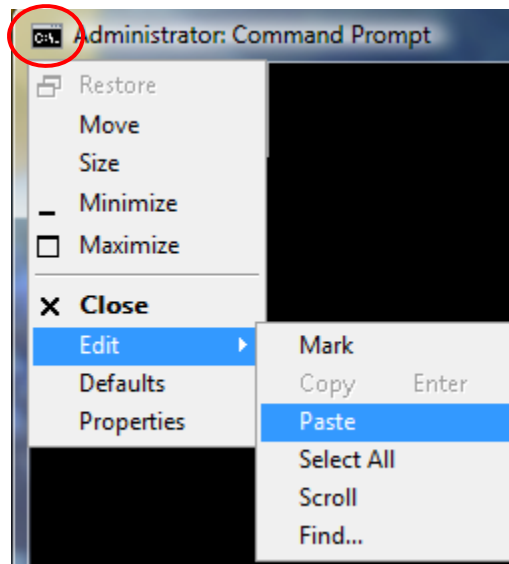

Figure II-25. Accessing Paste Function in Command Prompt
- 2) When an instruction is given to run a command in the Command Prompt window, the command can be copied from this instruction into the Command Prompt window using the **Copy** function in Word or PDF and the **Edit/Paste** function in the Command Prompt. The **Paste** function in the Command Prompt window is accessed by clicking the icon in the upper left hand corner of the Command Prompt window. When clicked, it shows a context menu as shown in Figure II-25.